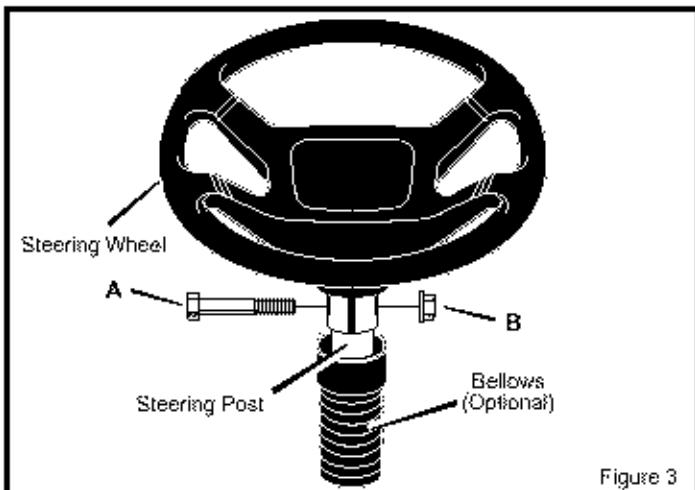

Figure 3
2. Some models have an **optional bellows**. Slide the **bellows** over the **steering post**. Make sure the **collar** of the **bellows** is on top (Figure 3).